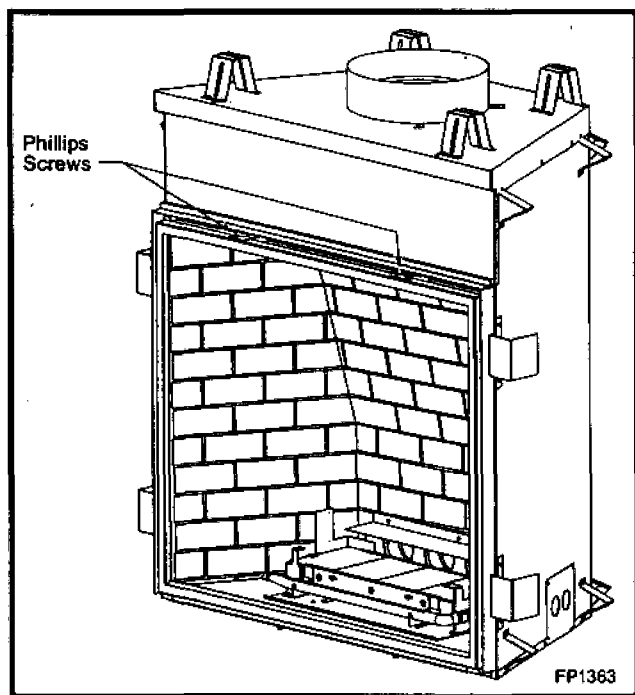

Fig. 35 Remove Phillips screws, tilt frame forward and lift off bottom door track.
3. Using a Phillips screwdriver, unfasten two (2) screws located at the top of the glass frame. (Fig. 35)